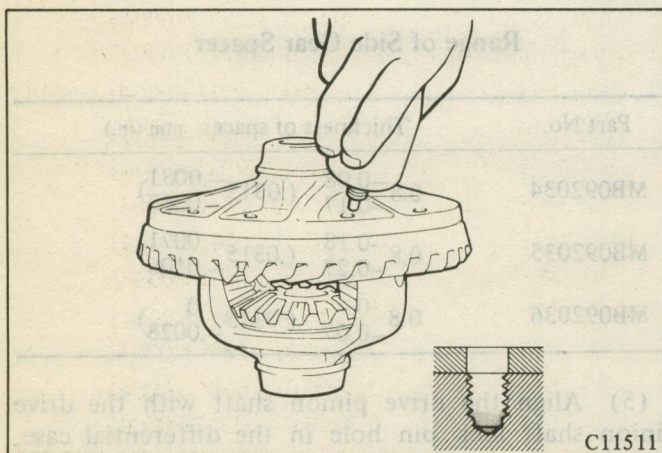

Fig. 29 Applying the Anaerobic Adhesive
(6) Remove old adhesive from the ring gear mounting bolts using a wire brush and from the internal thread using hand tap. Apply "LOCTITE 271" supplied by LOCTITE Corp, or equivalent anaerobic adhesive. (Fig. 29) Temporarily tighten each bolt evenly, and then tighten to the standard torque in a criss-cross fashion.